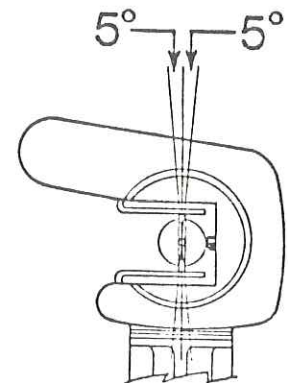

Figure 14
4. When the operating arm at the base of the rotating insulator is against the closed position stop, the blade tip should be vertical in the jaw contacts. (Figure 14)
The switch is completely closed when the blade tips are completely vertical in the contacts as shown in Figure 14 on page 8. It is fully open when the operating arm on the rotating stud bearing travels to within 1/8 inch of the open position stop.